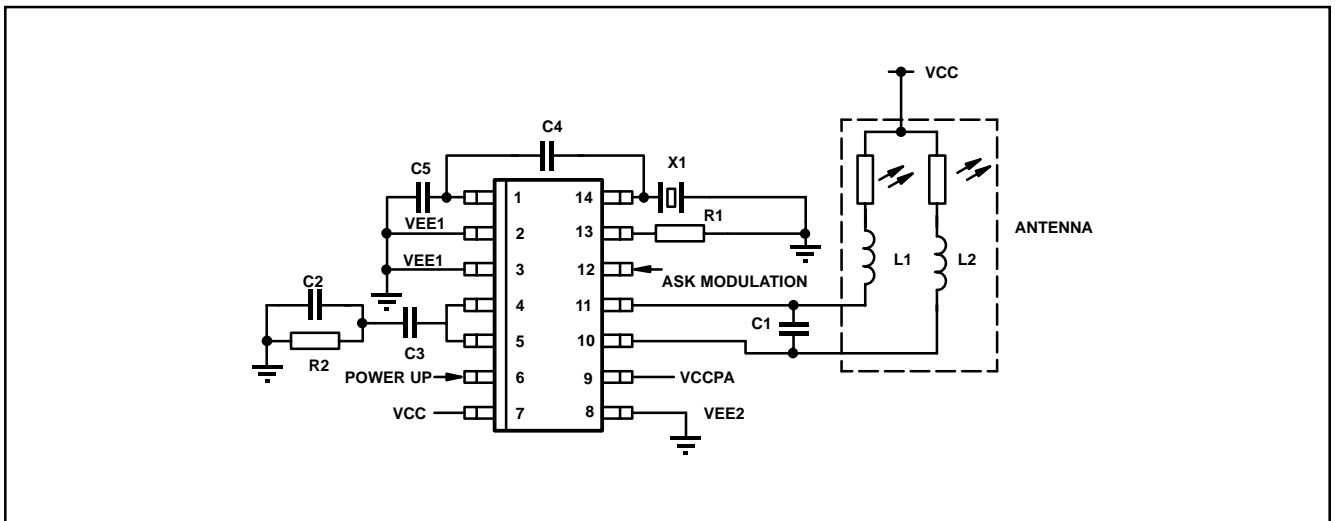

Figure 6 Application diagram
3. Regulatory issues demand that transmission does not take place until the PLL has acquired lock and the VCO is operating at its final output frequency. This requirement demands that pin TXEN is set high at least T_{xe} ms prior to the transmission of any data. This value is dependent on the PLL loop bandwidth and hence on the value of the external loop filter component values. The specification value above is for the loop filter components shown in the applications diagram (Figure. 6)
A single transistor Colpitts crystal oscillator provides a reference clock for the PLL. The oscillator is configured for parallel resonant operation in the fundamental mode (typical operating frequency of 3–7MHz). The crystal is connected between pins XTAL2 and VEE1 with external components as shown in Figure 6.
The input signal at pin DATA produces amplitude shift key (ASK) modulation of the VCO output. This is achieved by on-off keying of the bias current in the output power amplifier stage. The output of the PA is a balanced output (pin OUT and OUTB) and is current source driven (open collector outputs). The outputs of which should be D.C. referenced to a positive supply voltage (anticipated to be Vcc in most applications). The current source outputs can drive a PCB antenna directly (Figure 6) or if a higher output power is required on limited supply headroom via a simple impedance transforming network. A balanced output stage is used as it automatically suppresses the even order harmonics of the fundamental. In order to obtain the benefits of this output stage it is essential to use a balanced antenna.